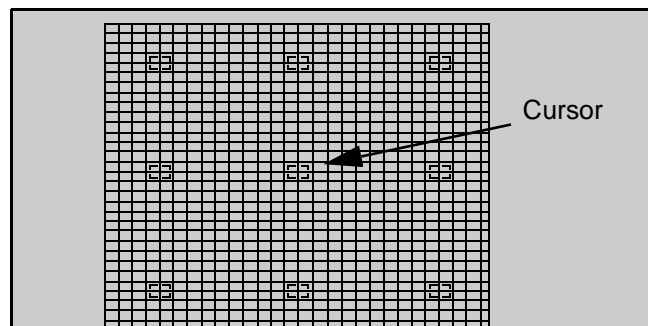

Figure 46. **EASY adjustment cursor Positions**
10. To move the cursor press MUTE on the remote (cursor blinks), then move the cursor to any of the 9 positions for "EASY" mode (see Figure 46)